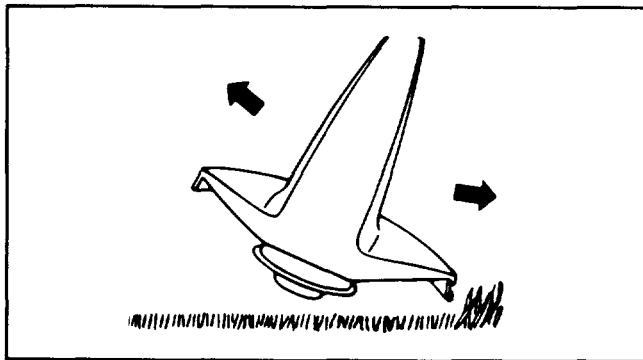

Figure 4
4. Slowly move unit in and out of area being cut, maintaining unit at desired cutting height. This can be either a forward-backward or side-to-side motion as indicated in Figures 4 & 5.